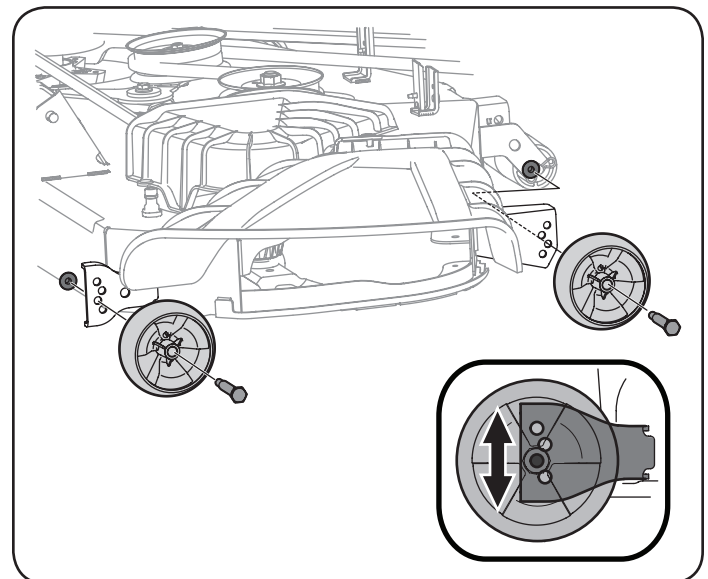

Figure 9
- b. Remove the front and rear deck wheels by removing the flange lock nuts and shoulder bolts that secure them to the deck. See Figure 9.